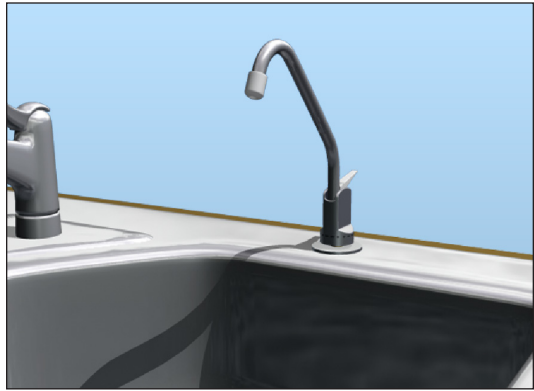

Figure 1, Pure Water Faucet (see detail in Appendix C)
- 1) Select a location for the faucet on the sink top. (See Figure 1, below)